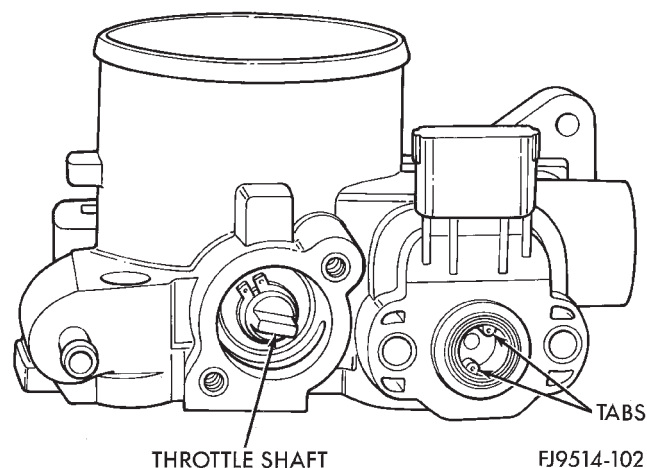

Fig. 71 Indexing Throttle Position Sensor—2.5L Engine
(1) The throttle shaft end of the throttle body slides into a socket in the TPS (Fig. 71). The socket has two tabs inside it. The throttle shaft rests against the tabs. When indexed correctly, the TPS can rotate clockwise a few degrees to line up the mounting screw holes with the screw holes in the throttle body. The TPS has slight tension when rotated into position. If it is difficult to rotate the TPS into position, install the sensor with the throttle shaft on the other side of the tabs in the socket. Tighten mounting screws to 2 N·m (17 in. lbs.) torque.
(2) After installing the TPS, the throttle plate should be closed. If the throttle plate is open, install the sensor on the other side of the tabs in the socket.
(3) Install throttle body to intake manifold. Refer to throttle body in this section.
(4) Attach electrical connectors to idle air control motor and throttle position sensor.
(5) Install EVAP purge hose to throttle body nipple.